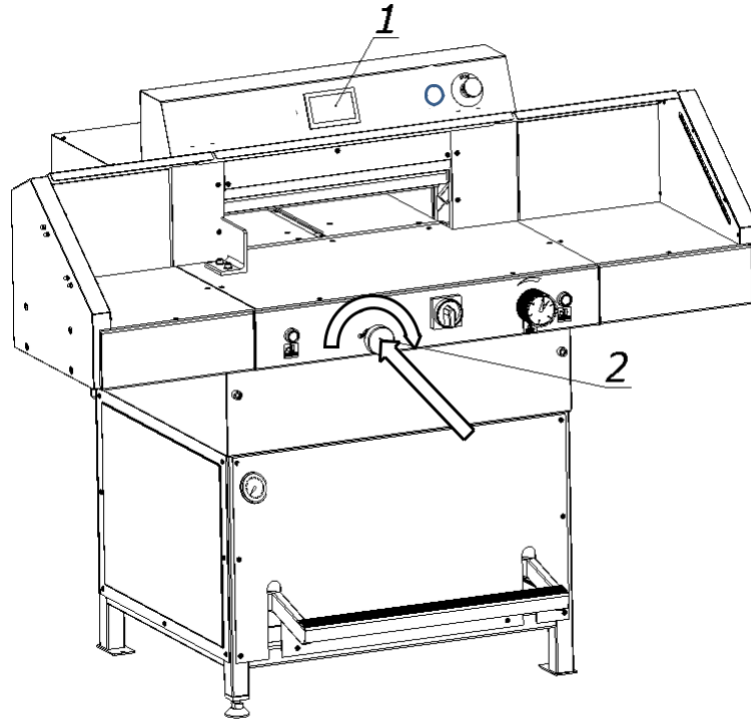

Figure 17 Arrangement of the positioning elements of the backgauge
Determining the position of the approaching beam is carried out using the programmer 1 and handwheel 2, figure 17.
1. Press knob 2 (Fig. 17)